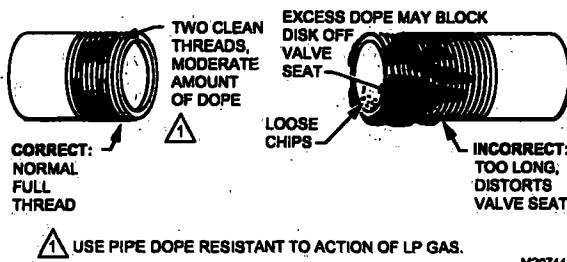

Fig. 3. Preparing the pipe threads.
3. Apply a moderate amount of good quality pipe dope to the pipe only (see Fig. 3). If pipe dope lodges on the valve seat, it will prevent proper closure. If using LP gas, use pipe dope resistant to action of LP gas.